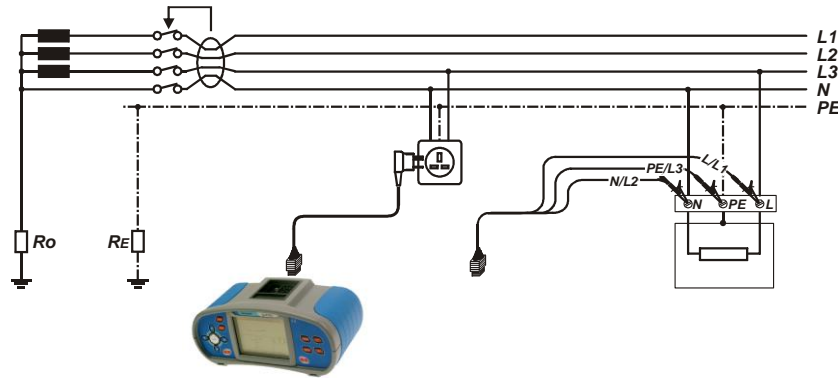

Figure 5.30: Connecting the plug cable and the universal test cable
- ❑ **Connect** test leads to the tested object (see figure 5.30).
<ul style="list-style-type: none"> ❑ Select the RCD function. ❑ Set sub-function AUTO. ❑ Set test parameters (if necessary). ❑ Connect test cable to the instrument. ❑ Connect test leads to the tested object (see figure 5.30). ❑ Press the TEST key. 	Start of test